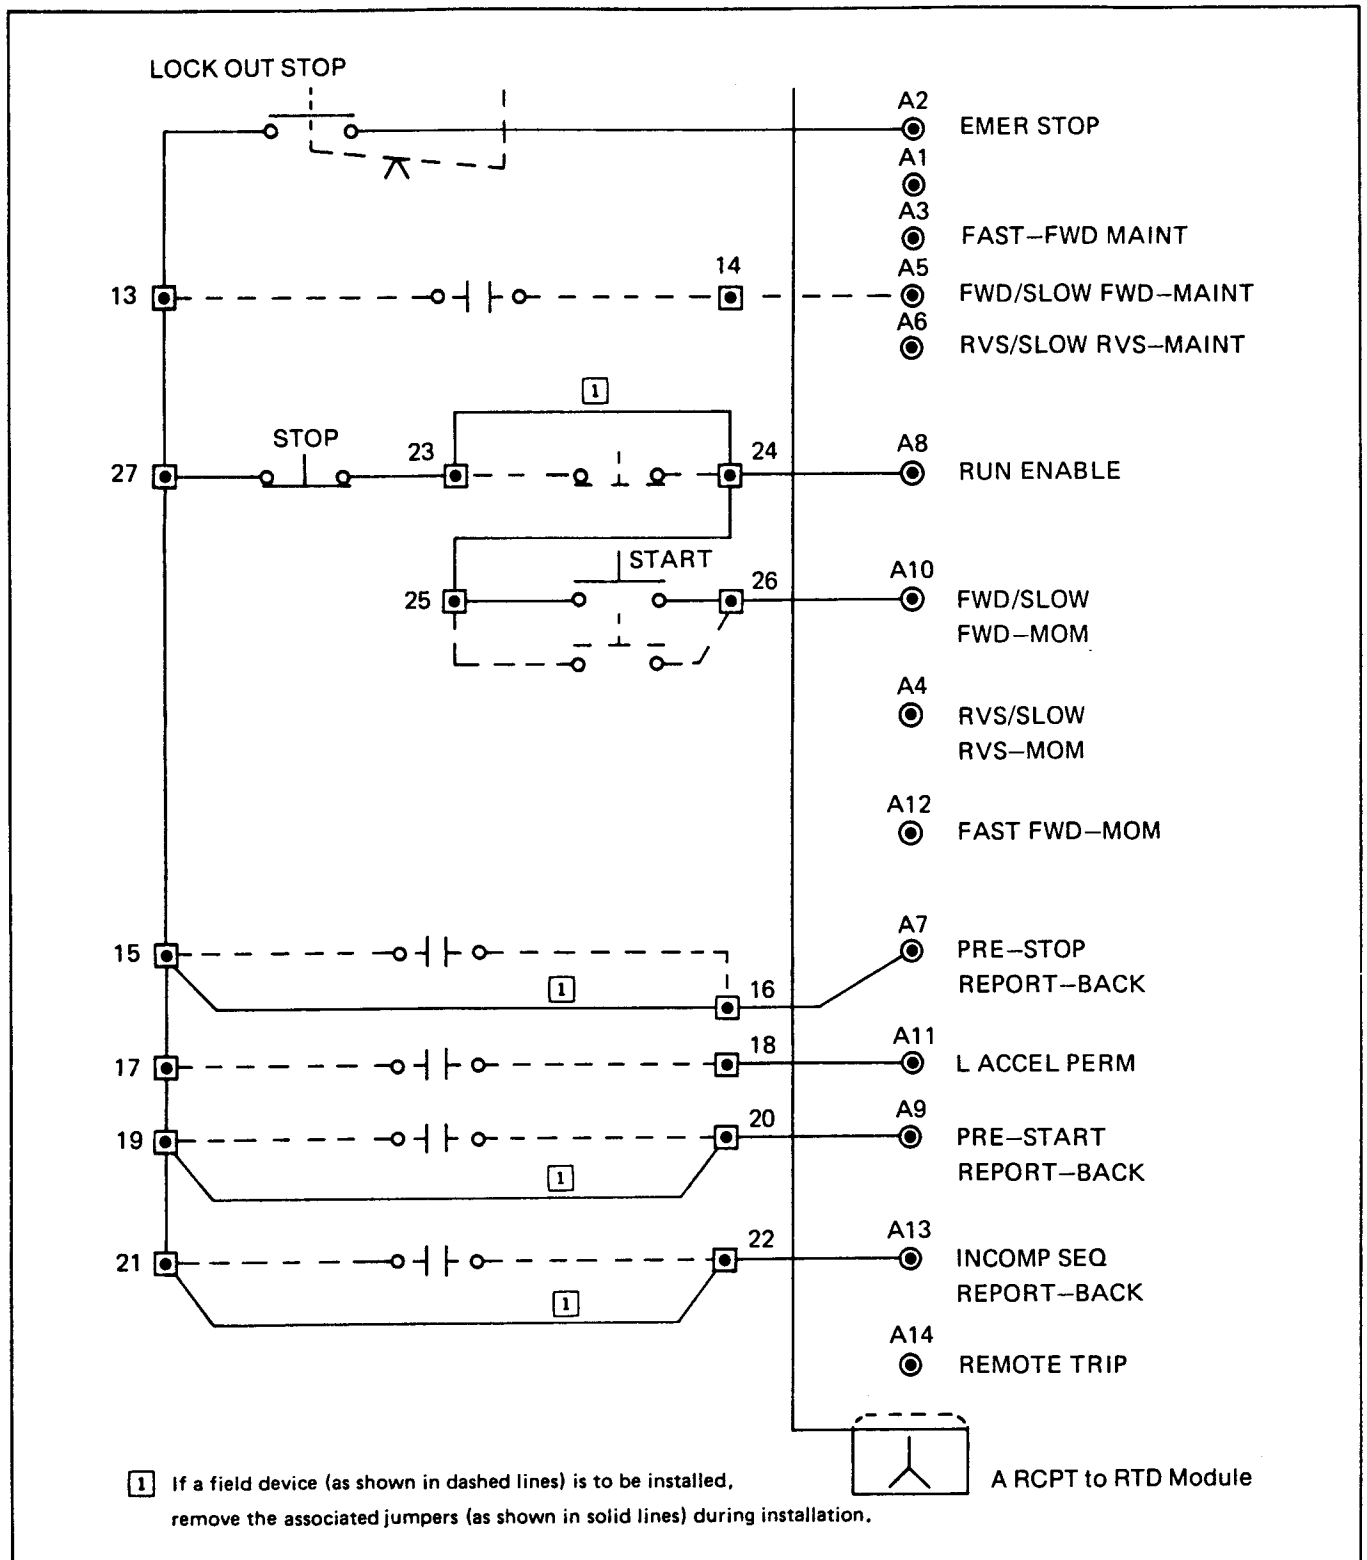

Figure 3.6 – Jumper and Field Wiring
- ☐ In some cases there may be factory-installed jumpers between the terminals as shown in the solid jumpers in Figure 3.6. It is necessary to determine whether or not there should be jumpers installed. Consult the wiring plan drawings to determine if any jumpers should be in place or removed for each application.
Note: when an external device, such as a limit or pressure switch, is to be wired between the terminals, as shown in Figure 3.6, the factory-installed jumper must be removed.